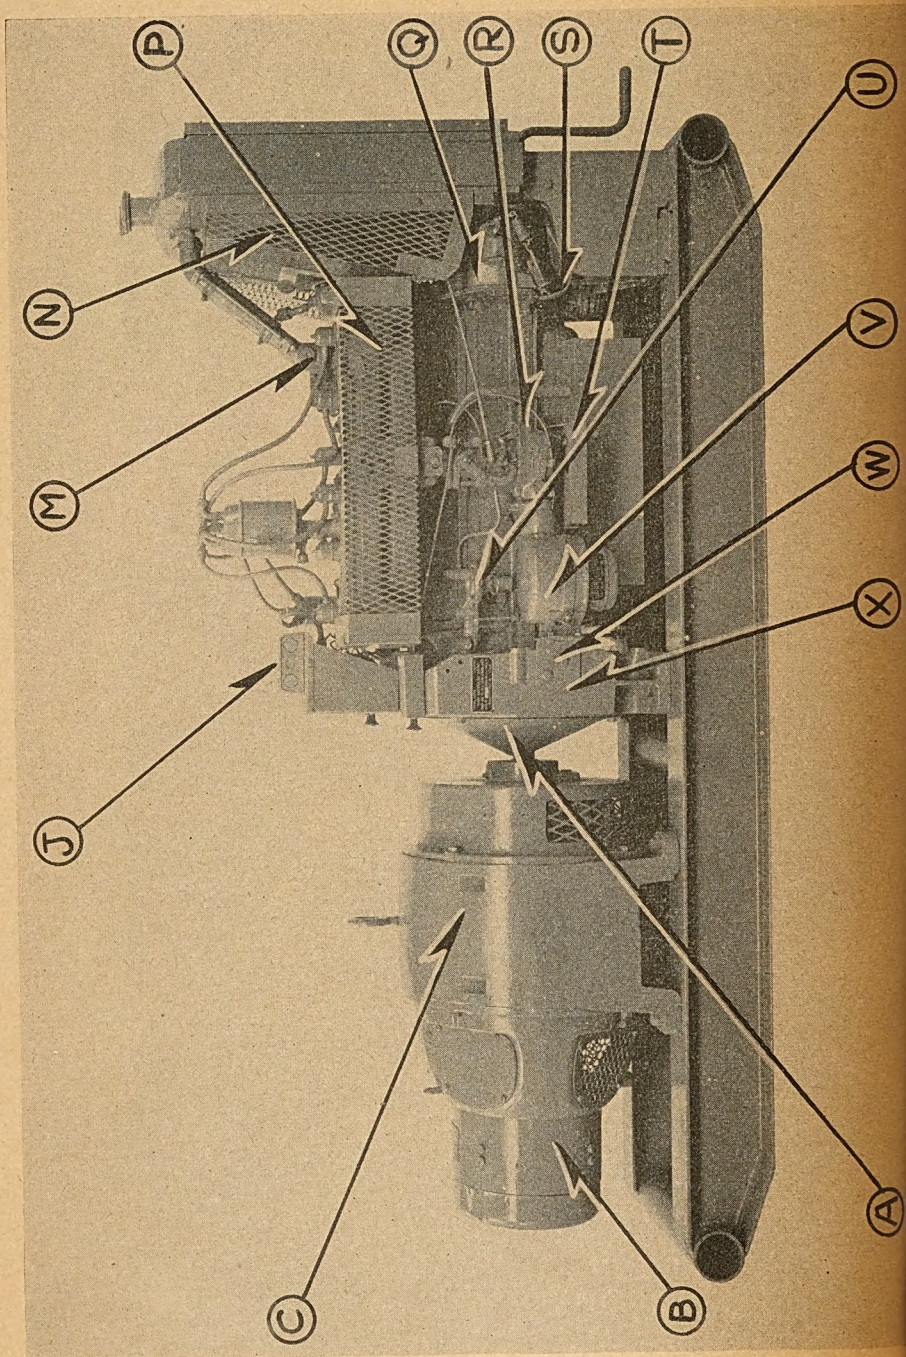

Figure 1. Power Unit PE-79-F, left side.
### LEGEND FOR FIGURE 1.
a. **Engine.** The engine (figs. 1 and 2) is a 6-cylinder, 4-cycle, L-head water-cooled automotive type. It furnishes the power to drive the alternator at a speed of 1,200 revolutions per minute (rpm). The engine develops approximately 26.6 horsepower. The piston displacement is 226 cubic inches, the bore is  $3\frac{5}{16}$  inches, and the stroke is  $4\frac{3}{8}$  inches. A description of some of the engine parts follows:
**b. Alternator (fig 1).** The 3-phase alternator consists of two generators, the d-c exciter [B] and the a-c generator [C]. Both units are attached to the same shaft which is connected to the engine drive shaft by a flexible coupling.